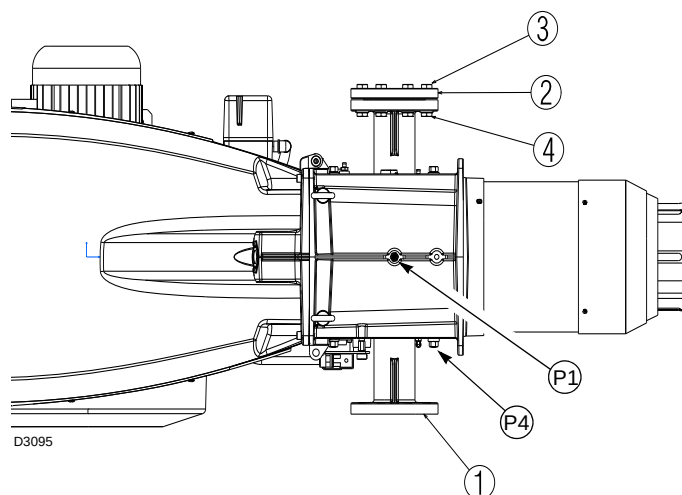

Fig. 19
The gas train is to be connected on the right of the burner, by flange 1)(Fig. 19).
Gas pressure measured at test point P1)(Fig. 19), with:
- subtract the combustion chamber pressure from the gas pressure measured at test point P1)(Fig. 19).
- Gas pressure at test point P1)(Fig. 19) = 19.4 mbar
To calculate the required gas pressure at test point P1)(Fig. 19), set the maximum output required from the burner operation:
- Read off the pressure at test point P1)(Fig. 19) on the right in column 1.
pressure required at test point P1)(Fig. 19).